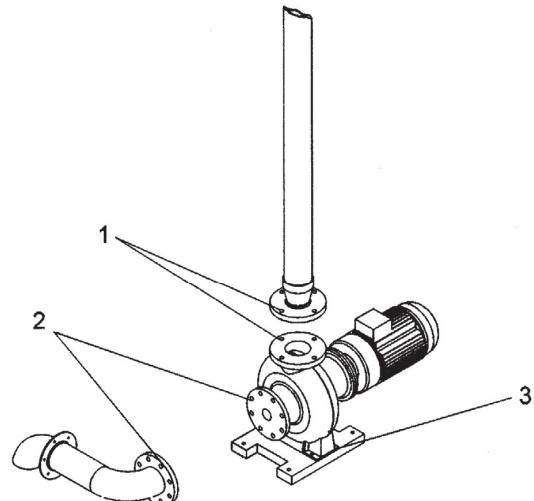

Fig. 47
- b) Dismounting the impulse pump: To dismount the impulse pump disconnects the flanges of the secondary circuit pipe (figure 47/1) of the suction pipe (figure 47/2) and the bedplate fastening (figure 47/3).